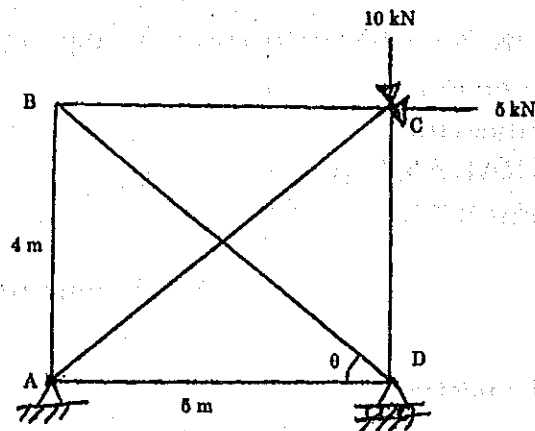

Fig. Q. 11 (a)
11. a) Compute the forces in the members of a pin jointed plane frame shown Fig. Q 11(a) by flexibility matrix method. AE is constant for all the members.